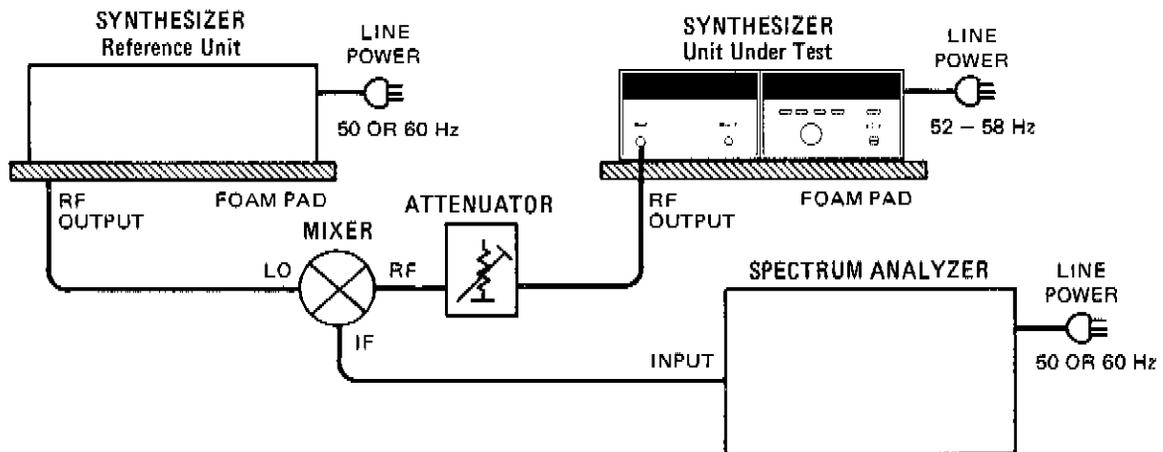

Figure 4-4. Power Line Related Spurious Test Setup
5. Connect the equipment as shown in Figure 4-4.